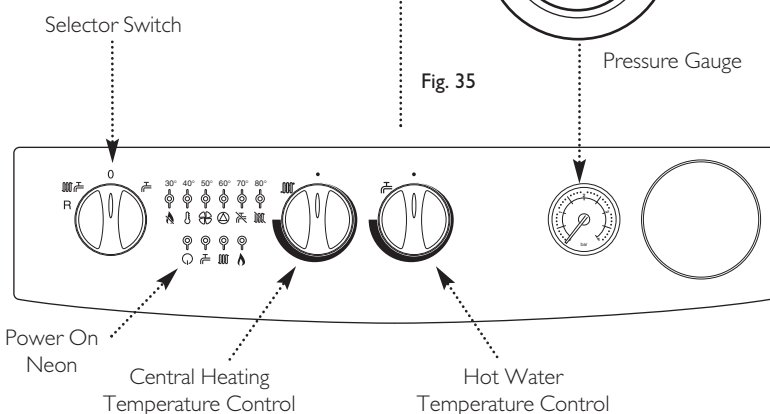

Fig. 36
2. Set the temperature controls to maximum and the selector switch to the Off position (Fig. 36).
6. Turn the selector switch to the Central Heating and Domestic Hot Water position (☀️). The power On neon (Ⓢ) will illuminate (Fig. 36).